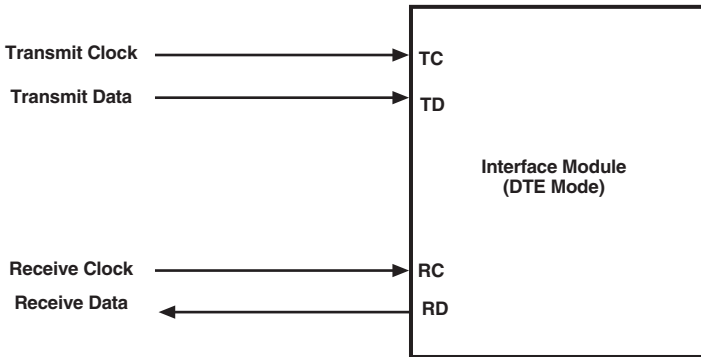

Figure 2-2. Flow of timing signals for DTE mode.
- DTE—the interface module accepts clock signals for the receive and transmit paths. Note that for the X.21 interface, the module has only a receive clock input. **Figure 2-2** shows the flow of timing signals for the DTE mode.